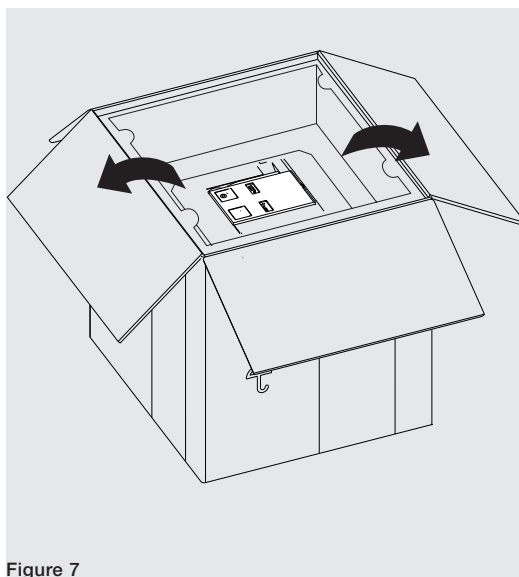
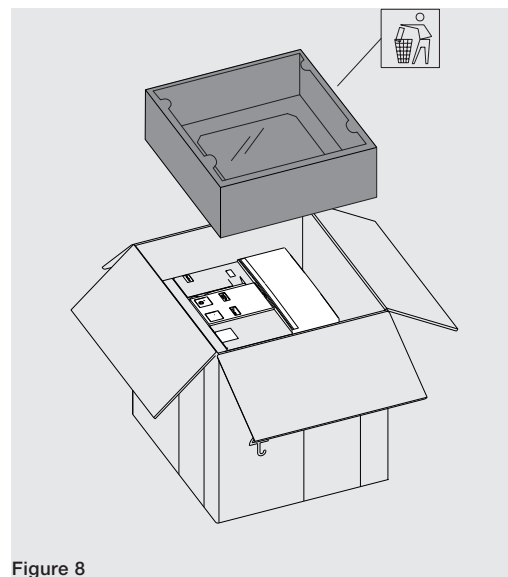

Figure 7
Figure 8
2. Open the upper part of the packing box and remove the upper containment protection. See Figure 7 and Figure 8.